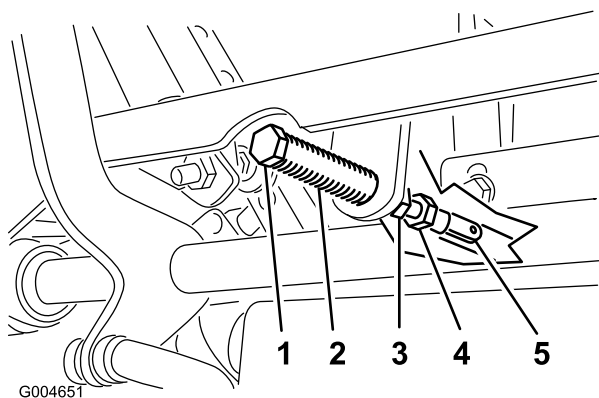

Figure 63
5. Pull the lever back until the clevis pin (on an arm above the pivot shaft) contacts the end of the slot (just beginning to put pressure on the spring) (Figure 63).
7. If adjustment is needed, loosen the nut and jam nut against the yoke (Figure 63).
8. Applying slight rearward pressure on the motion control lever, turn the head of the adjustment bolt in the appropriate direction until the control lever is centered in the neutral lock position (Figure 63).
9. Tighten the nut and jam nut (Figure 63).
9. Tighten the jam nuts at the ball joints (Figure 63).